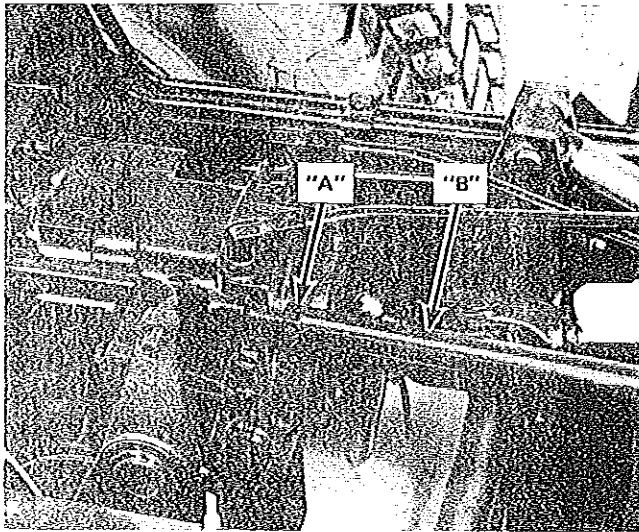
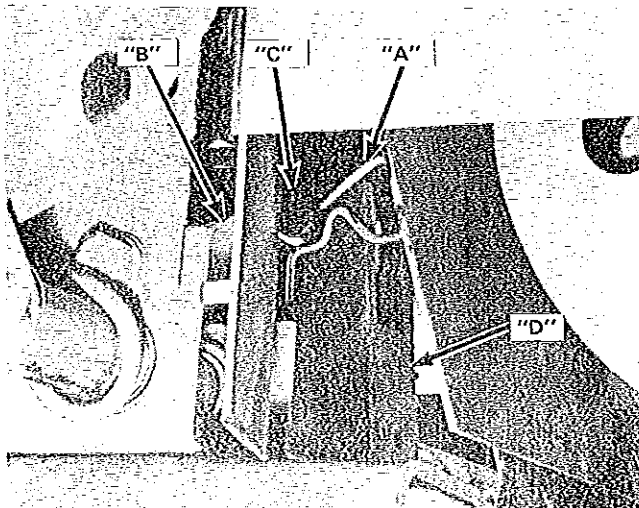

Figure 40
Figure 41
The travel pedal angle can be adjusted for the operator's comfort. Refer to Figure 40.
1. Loosen nut "A" Figure 40.
2. Remove spring cotter "A" from pin "C." Remove pin "C" from control arm "D," Figure 41.
3. To bring toe of pedal closer to operator, shorten rod "B" Figures 40 and 41.
4. To move toe of pedal farther away from operator, lengthen rod "B" Figures 40 and 41.
5. After desired adjustment is reached, align hole in pedal end of rod "B" with hole in control arm "D" Figure 41 and secure with pin "C" and spring cotter "A." Lock hex nut "A" Figure 40.